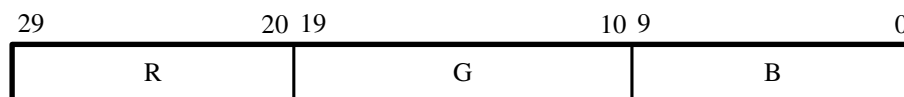

Figure 11. 30-bit RGB Color Space.
- 30-bit RGB — This format uses 10 bits for each color as shown in Figure 11. This mode is defined as 10 bits per symbol and three symbols per beat.